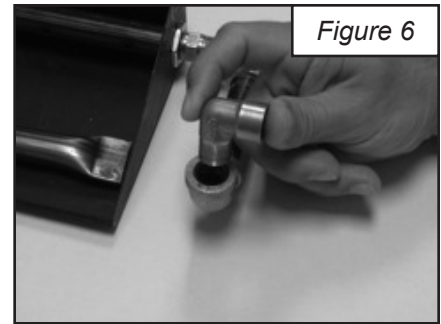

Figure 6
- F. Connect the 90 degree street elbow (Part #17) to the 3/8" female elbow. (See Figure 6)